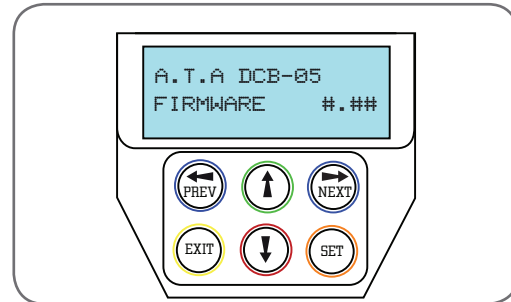

fig 19
3. After checking the initial wiring, apply power to the DCB-05. The controller will go through a startup sequence displaying the STARTUP SCREEN which indicates the controller type and firmware version **Fig. 19**.